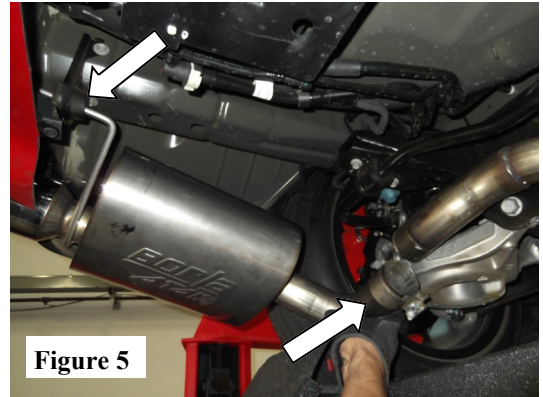

Figure 5
1. Beginning with the **L/H Muffler Assembly**, place a clamp over the inlet tube and insert (2) hangers into the rubber isolators. Insert the **L/H Muffler Assembly** inlet tube over the (cut) under-axle pipe. (See Fig. 5 & 6) **DO NOT TIGHTEN CLAMP.**